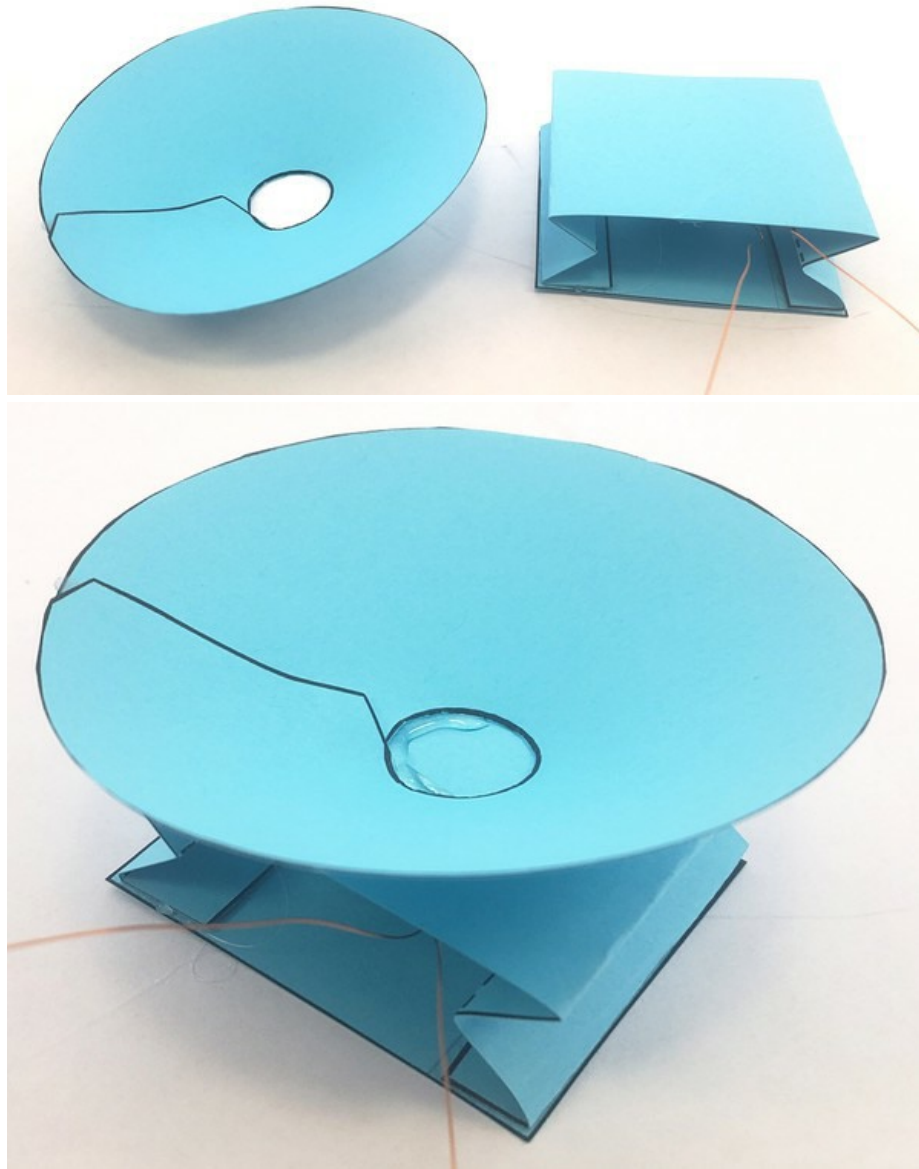

Figure 15. Top: speaker cone and speaker body. Bottom: speaker cone glued to top of speaker body.
14) Glue the bottom, smaller opening of the cone to the top of the speaker (Figure 15).